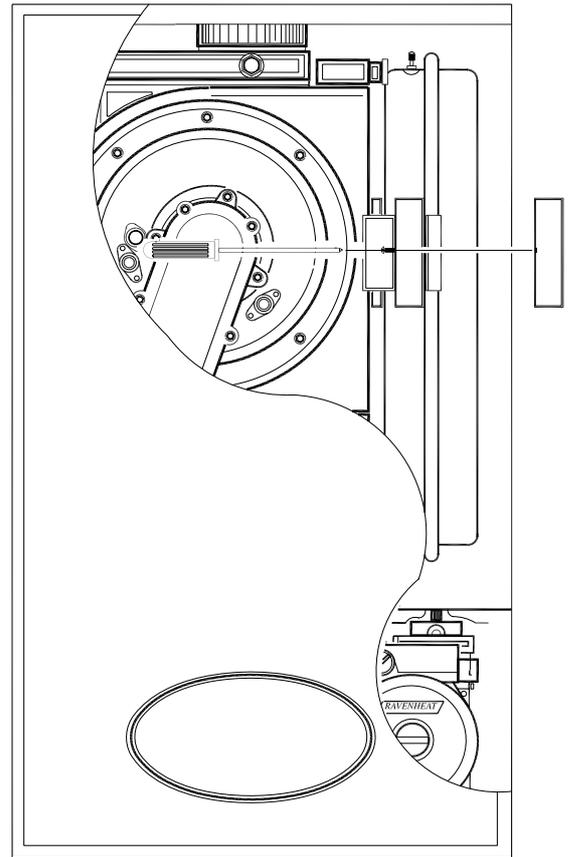

Fig.39
**8.12 TO REMOVE/REPLACE EXPANSION VESSEL (Fig.39).**